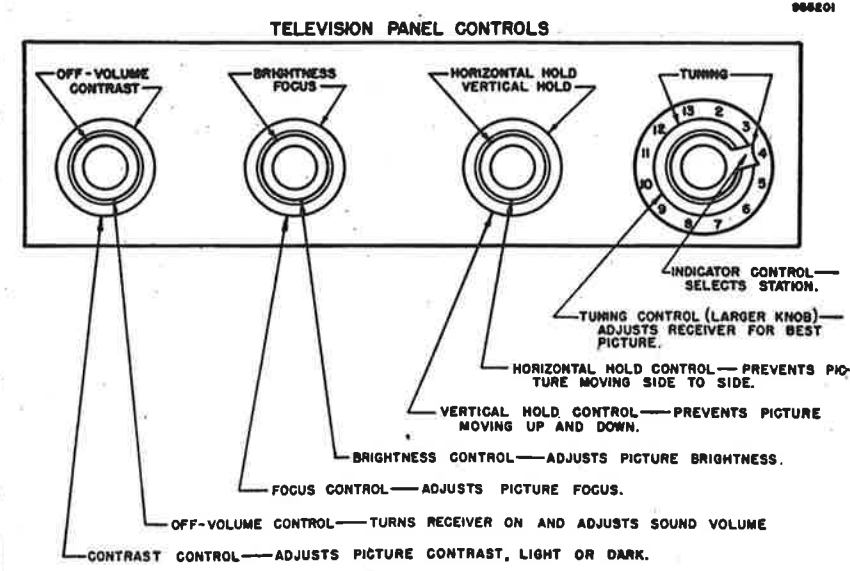

Figure 3-1—Operating Controls
1. OPERATING CONTROLS—To position the screen for viewing, lift the top lid as far as it will move. The viewing screen will be automatically raised to a vertical position and operate the latch button (interlock) located at the top center of the cabinet. The operating controls, consisting of four dual-controls, are located at the top of the cabinet. The operation and function of each control is indicated in figure 3-1.